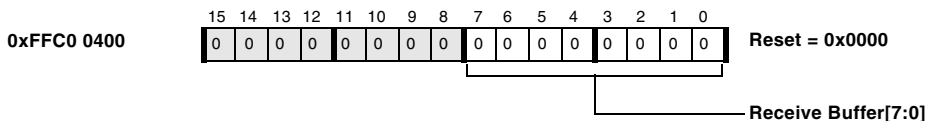

Figure 13-6. UART Receive Buffer Register
The receive operation uses the same data format as the transmit configuration, except that the number of stop bits is always assumed to be 1. After detection of the start bit, the received word is shifted into the Receive Shift register (RSR) at a baud rate of  $SCLK/(16 \times \text{Divisor})$ . After the appropriate number of bits (including stop bit) is received, the data and any status are updated and the Receive Shift register is transferred to the UART Receive Buffer register (UART\_RBR), shown in Figure 13-6. After the transfer of the received word to the UART\_RBR buffer and the appropriate synchronization delay, the Data Ready (DR) status flag is updated.